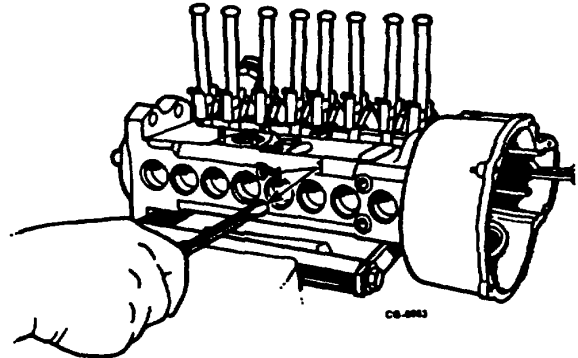

Figure 20. Removing Camshaft Center Bearing Screws
8. Remove the two camshaft center bearing screws from bottom of pump (Figure 20).